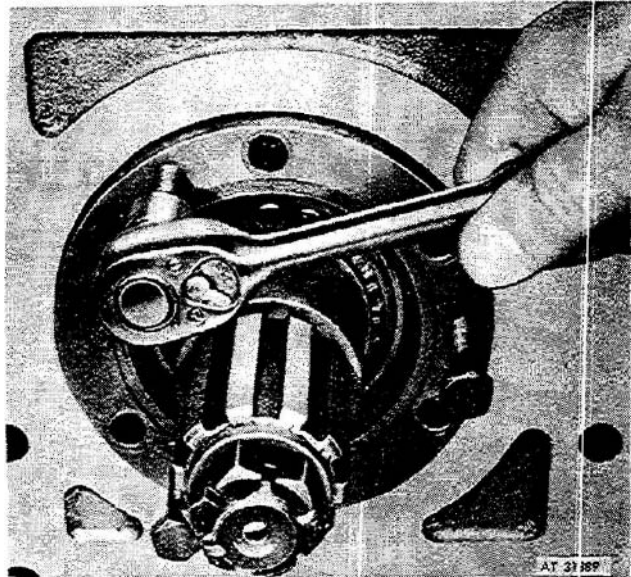

Figure 3-93. Removing assembled housing.
(8) Remove assembled housing (50, fig 3-88) from housing (15) by installing three screws in housing jack screw holes, tighten screws evenly, this will back housing (50) from housing (15) as shown in figure 3-93. Remove shim (51, fig. 3-88).